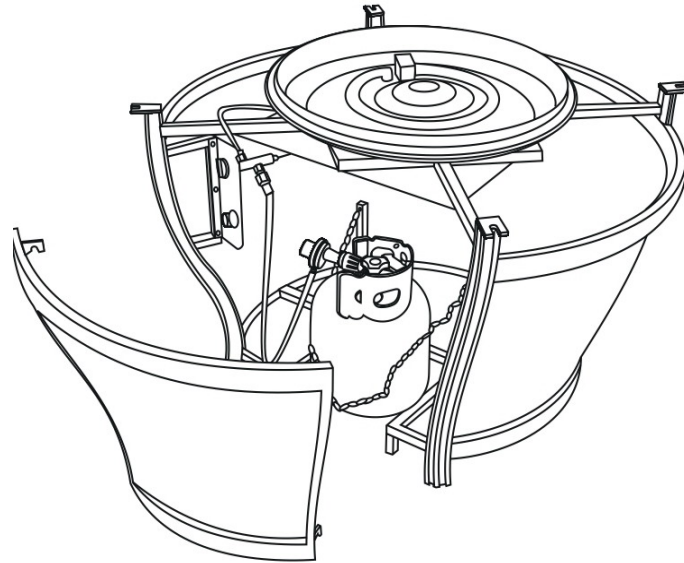

Figure 6
4. Open the tank door, place the tank in the holder and use the chain to hold the tank. Connect the regulator as shown in Figure 6. Turn the black handle clock-wise to tighten. Turn the handle counterclock-wise to remove. The hose must point down. Open the control door and check that the valve is turned all the way clockwise to the “OFF” position. Open the tank valve. Apply a solution of soapy water to the tank-regulator connection and to the valve-hose connection to check for leaks. If soap bubbles continue to form, the connection has a leak. If a leak is found, close the tank valve and tighten all connections. **NEVER USE A FLAME TO CHECK FOR LEAKS.**